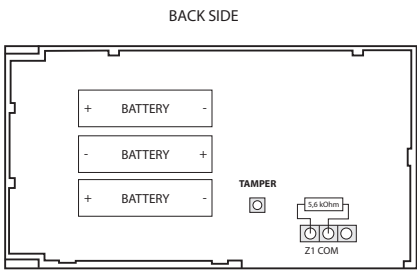

Fig. No. 2
3. **Z1** and **COM** contacts must be connected with resistor of 5,6kΩ nominal (see Fig. No. 2). As keypad zone Z1 is disabled by default, it can be enabled by SMS, EKB3W keypad and *ELDES Configuration Tool* software. Keypad zone **Z1** must be enabled and resistor connected even if the tamper button alone is required.
ATTENTION! Before fixing the keypad into the holder, please, make sure that the tamper is properly pressed (see Fig. No. 2).